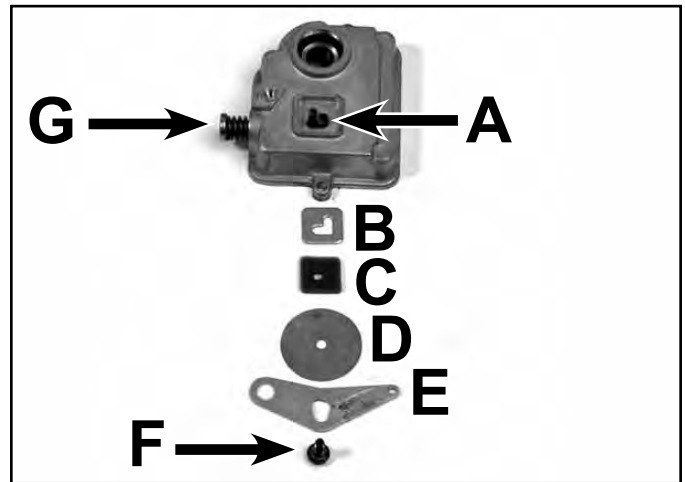

Fig 015 3428-0165
14. Remove the screw from the shift arm and remove the shift arm, dust cover, and wear plate (Fig. 015). If the ball bearing is to be replaced, press it out at this time.